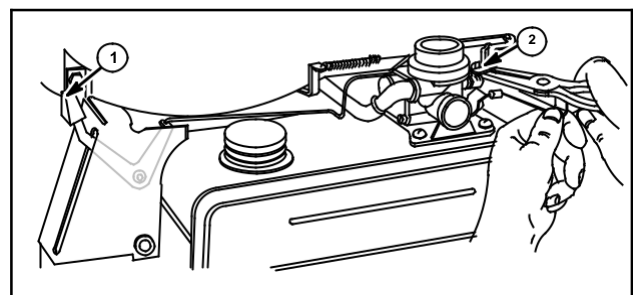

Fig. 105
Place control in choke detent (1). If choke does not fully close, bend linkage as shown until choke is closed (2), Fig. 105.